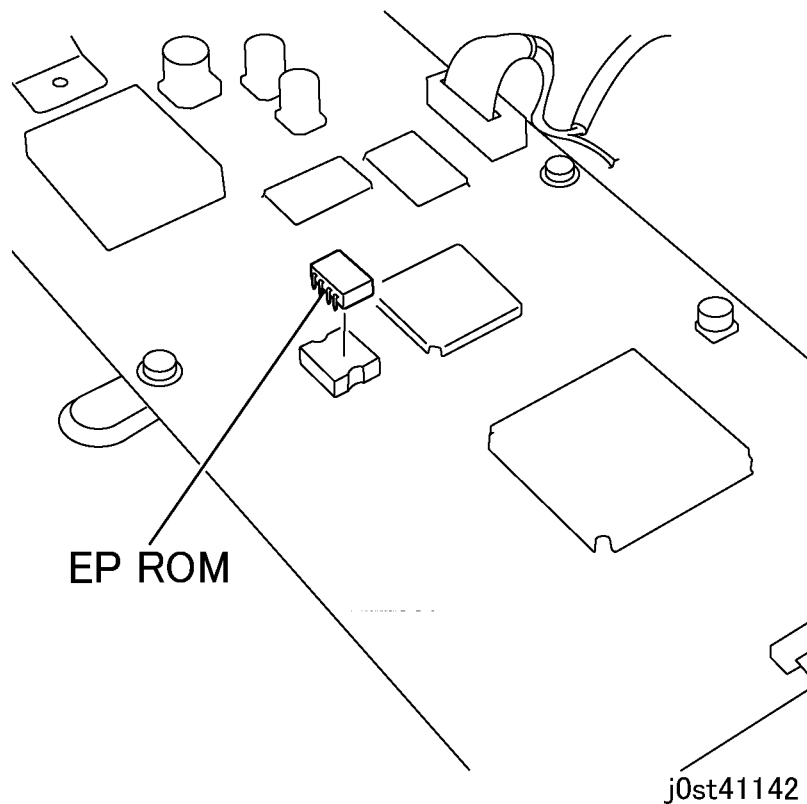

Figure 4 EP ROM Replacement (j0st41142)
2. When having replaced the IIT/IPS PWB, install the EP ROM from the old IIT/IPS PWB on the new IIT/IPS PWB. (Figure 4)